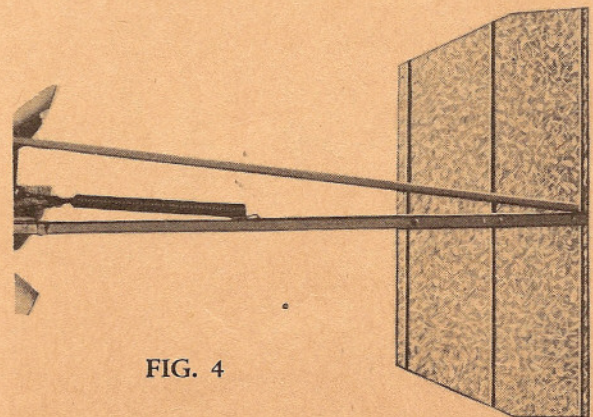

FIG. 4
4. To put together the vane stem, No. 63, vane truss, No. 64, and vane sheet, No. 72A: (a) Bolt the vane stem and vane truss together at the outer end with a  $\frac{3}{8}$  inch x  $\frac{3}{4}$  inch machine bolt. (b) Bolt the sheet to them with  $\frac{3}{8}$  inch x  $\frac{3}{4}$  inch machine bolts, using a flat washer under the nut on the sheet side. (Fig. 4.)